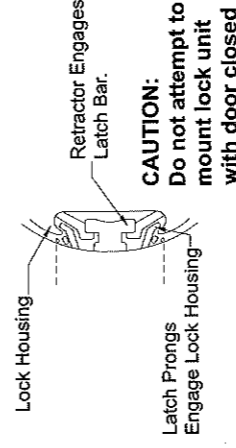

Figure 1
- For ease of installation, lock should be in the unlocked position. (Figure 1)